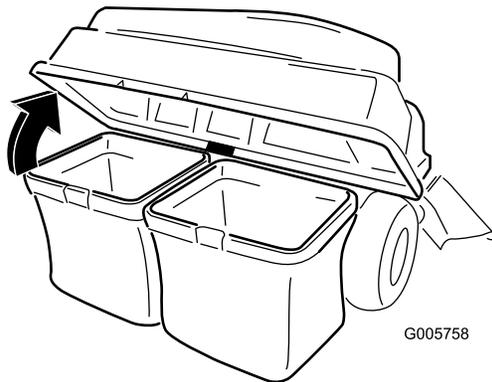

Figure 32
3. Open (raise) the bagger top (Figure 32).